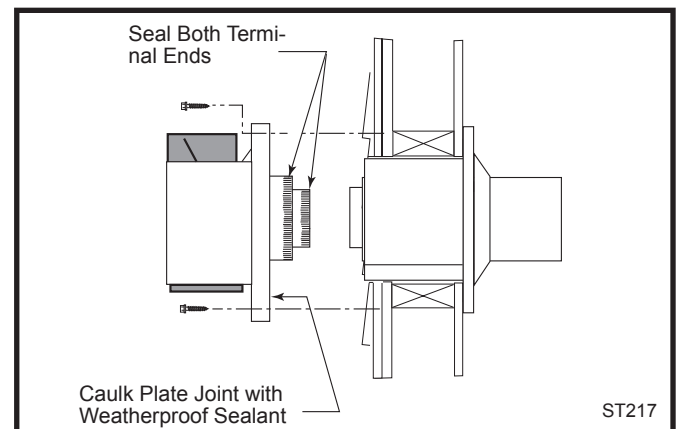

Fig. 29 Install the vent terminal.
- 10. For both MHSC and DuraVent Systems:** Install the vent terminal. (Fig. 29) Apply high temperature sealant one inch from the ends of the inner and outer collars. Guide the inner and outer vent termination collars into the adjacent pipes. Double check that the vent pipes overlap the collars by 2". Fasten the termination to the wall with the screws provided, and caulk the joint with weatherproof sealant.